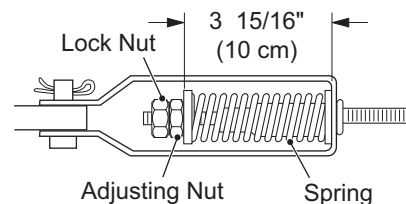

Figure 6 Equalizer and Compensator
- Check that the compensator spring length is $3\ 15/16''$ (10 cm) (Ref. Figure 6).